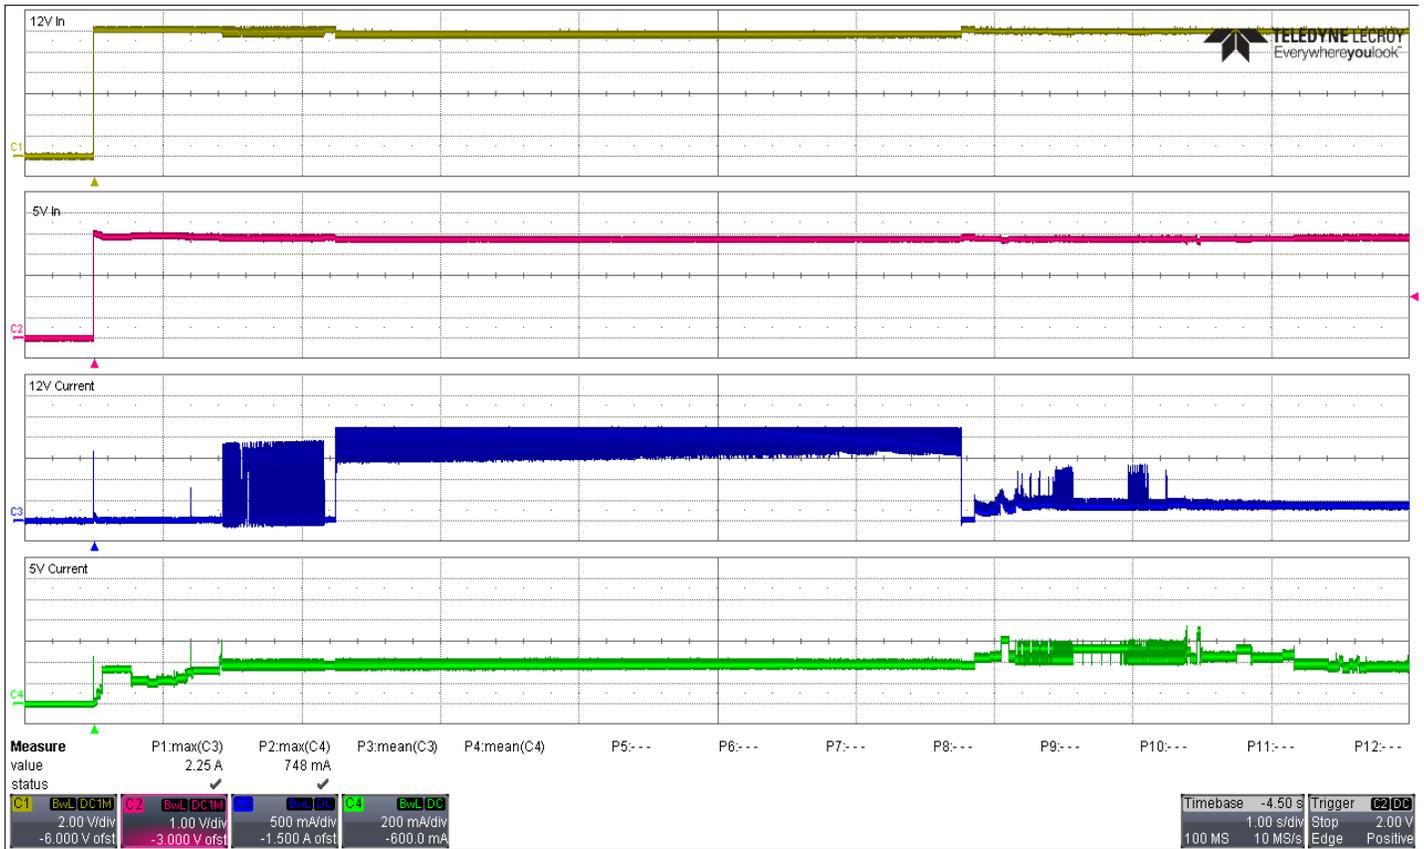

Figure 1. Exos X24 current profiles.
- [3] See +12V current profile in Figure 1.